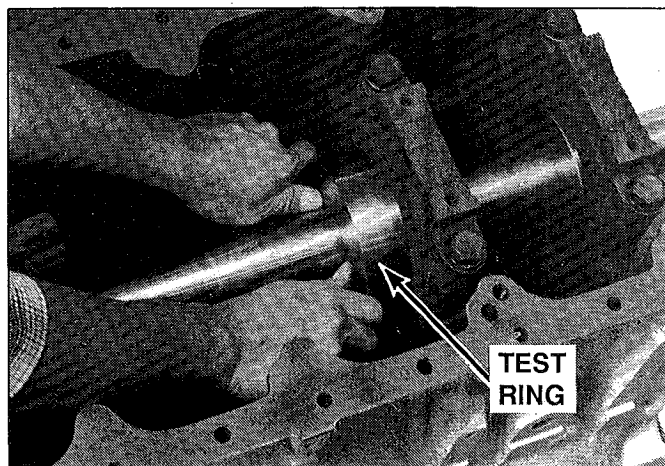

FIG. 3 MAIN BEARING BORE ALIGNMENT TEST
5. Now rotating the test ring back and forth, use light finger pressure against the test ring on both sides of the bar and push the test ring through each bore. (See Fig. 3).